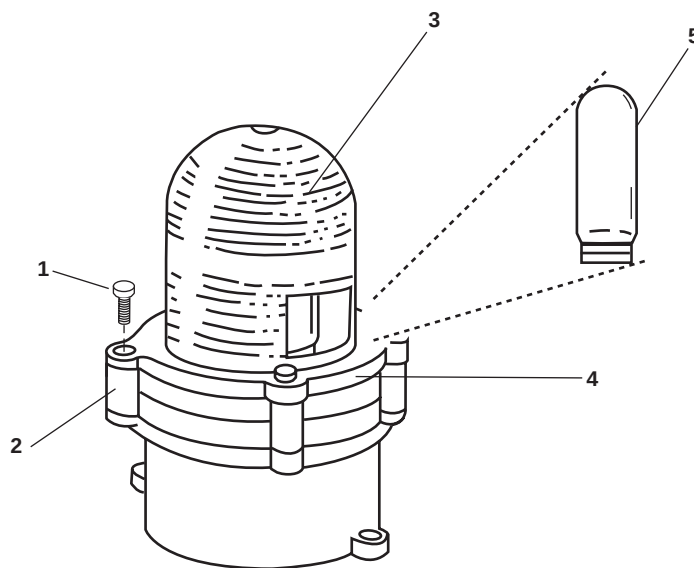

Figure 1. Yardarm Light
1. Remove the four screws (figure 1, item 1), retaining ring (figure 1, item 2), and lens (figure 1, item 3).
2. Remove and discard the gasket (figure 1, item 4).
3. Remove the lamp (figure 1, item 5) from the lamp socket.
1. Install the lamp (figure 1, item 5) in the lamp socket hand tight.
2. Install the new gasket (figure 1, item 4), lens, (figure 1, item 3) and retaining ring (figure 1, item 2) and secure them with the four screws (figure 1, item 1).